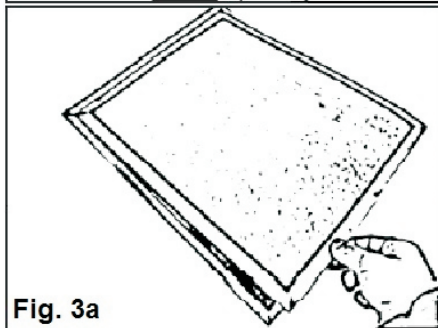

Fig. 3a
- c. Place the charcoal filter on top of the mesh filter. (Fig. 3a)